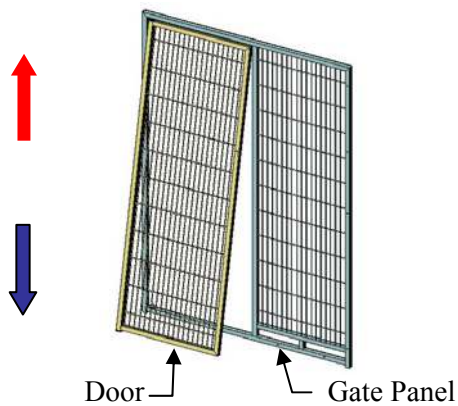

Figure 6
1. Locate the **Gate Panels** and remove the **Door** from each **Gate Panel** by slightly opening and lifting up on the **Door**. Once the **Door** clears the hinge pin at the bottom, pull the bottom of **Door** toward you (**Figure 6**). Pull the top of the **Door** down until the top of the **Door** clears the top hinge pin.